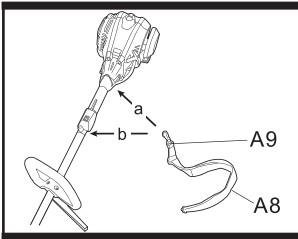

Fig. 11a
- 1). To remove the harness from the loop (position a, b), open the securing clip (A9). (See Fig. 11a)